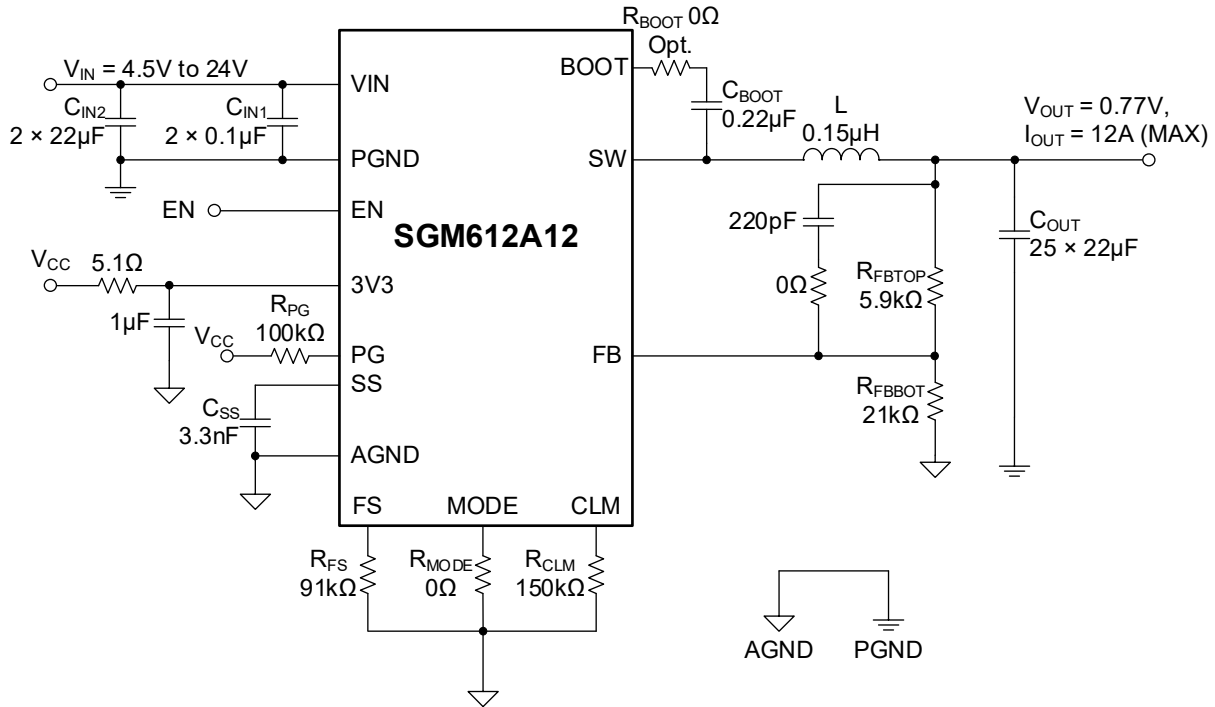

Figure 3. Typical Application
( $C_{BOOT}$ ) is used to provide this higher voltage for supplying the HS gate driver.  $C_{BOOT}$  is charged through the internal bootstrap switch from 3V3 when the low-side (LS) switch turns on and SW node is at around 0V. When the LS switch turns off and HS switch turns on, the SW voltage will rise to the  $V_{IN}$  rail voltage. The  $C_{BOOT}$  voltage is charged to  $V_{IN} + 3V3$  voltage to supply the HS driver. Refer to Figure 3 for  $C_{BOOT}$  selection.
The design method and component selection for the SGM612A12 Buck converter are explained in this section. A typical application circuit for the SGM612A12 is shown in Figure 3. It is used for converting a 4.5V to 24V supply voltage to a lower 0.77V output voltage with a maximum output current of 12A.